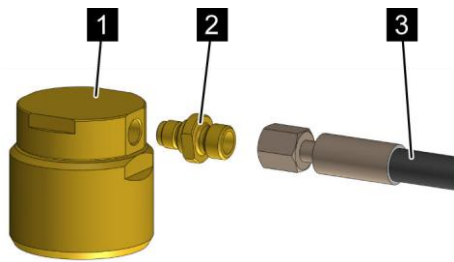

Fig. 23: Pilot line
- Connecting two pneumatic release devices (Fig. 23/1) of different slave extinguishing agent containers
- Connecting a pneumatic release device (Fig. 23/1) with a pneumatic pilot line for multi zone systems
For connecting the pilot line (Fig. 23/3) an adapter (Fig. 23/2) is required.